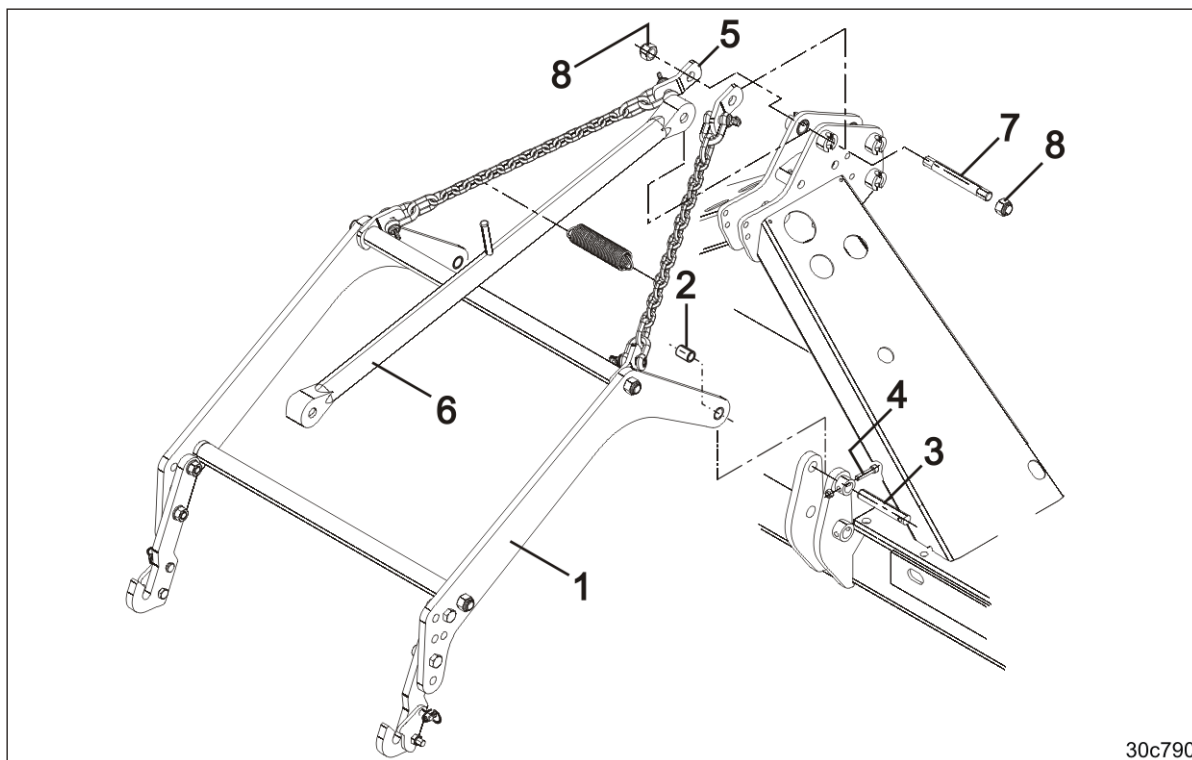

Fig. 85
1. Attach the coupling carrier arms (Fig. 85/1) to a crane.
2. Secure the coupling carrier arms with two spacer sleeves (Fig. 85/2) to the soil tillage implement with two pins (Fig. 85/3).
3. Secure the pins with screws (Fig. 85/4) and nuts.
4. Secure the chains (Fig. 85/5), together with the upper link (Fig. 85/6), to the soil tillage implement with a pin (Fig. 85/7).
5. Secure the pin with two securing nuts (Fig. 85/8).